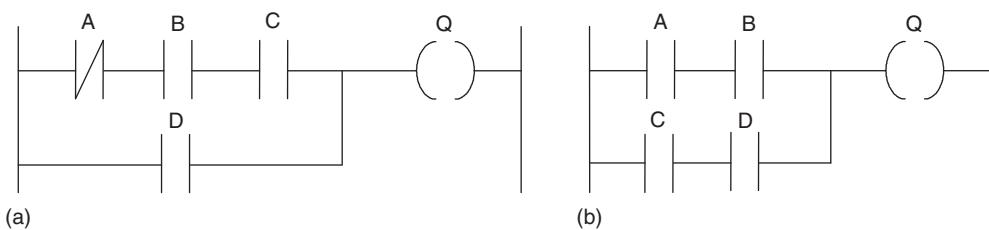

Figure A.1: Chapter 5, Problem 27.
27. (a) As in Figure 5.33, (b) see Figure A.1\(a\), (c) see Figure A.1\(b\).